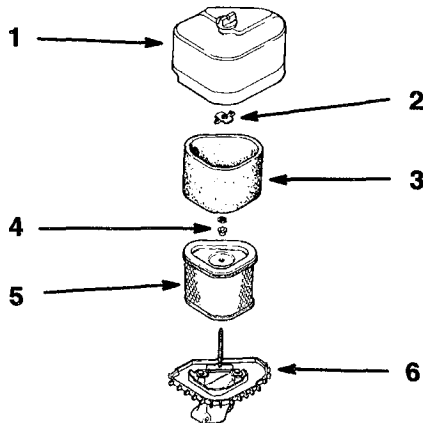

Figure 15
2. Clean around the air cleaner to prevent dirt from getting into the engine and causing damage. Unscrew the cover nut and remove the air cleaner cover (Fig. 15).
3. Remove the air cleaner assembly (Fig. 15).
4. Carefully slide the foam element off the paper element (Fig. 15).